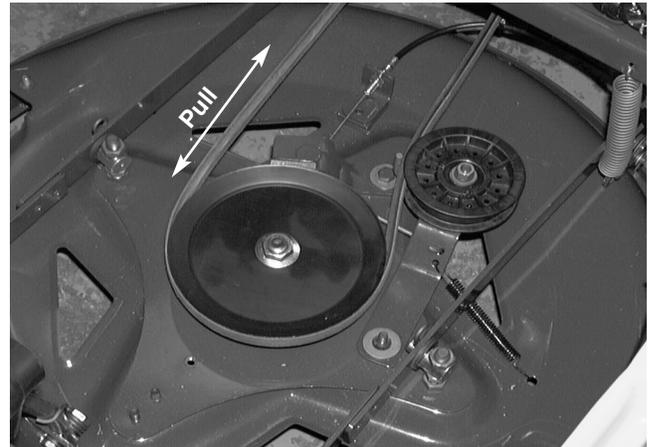

FIGURE 3.
- 5). Take hold of the deck engagement belt and try to pull it forward or backward. See figure 3.